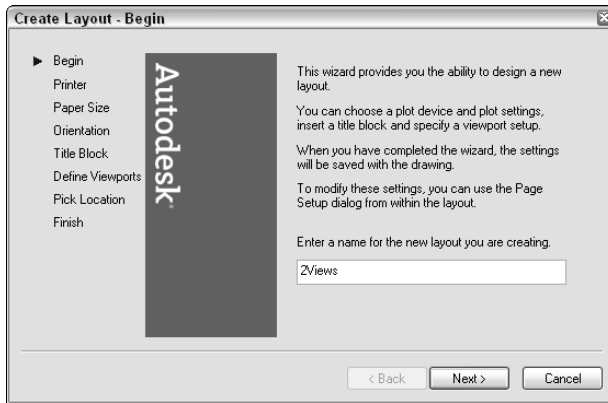

Figure 17-2: The first screen of the Layout Wizard.
1. Choose Tools ⇨ Wizards ⇨ Create Layout. You see the wizard screen shown in Figure 17-2, where you name the layout. This name will appear on the layout tab at the bottom of the drawing area.